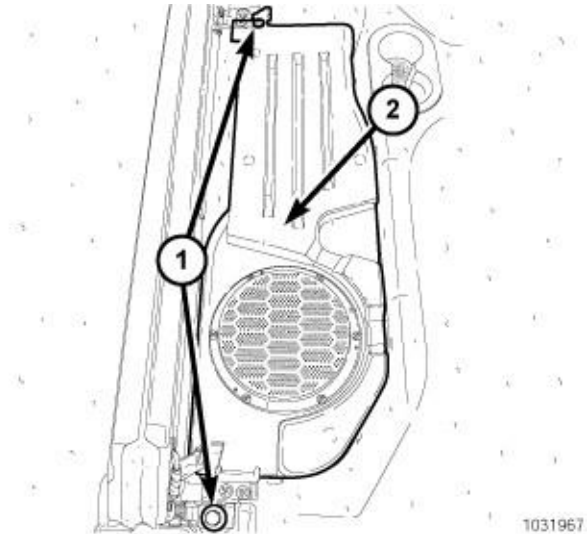

Figure 17 – Subwoofer
6. If equipped with a subwoofer speaker, raise the right rear seat to access the subwoofer (2) (Figure 17).
7. Remove the subwoofer mounting fasteners (1) (Figure 17).